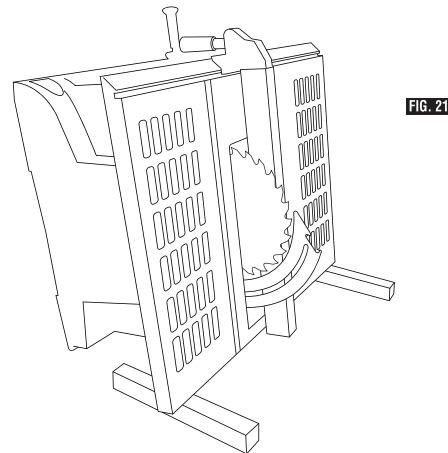

FIG. 21
7. Tilt and rest the saw on 1" thick wooden blocks at the back (Fig 21) to allow access to the riving knife attachment screws from under the saw. Make sure blocks are thick enough for the fence to move freely from side to side.